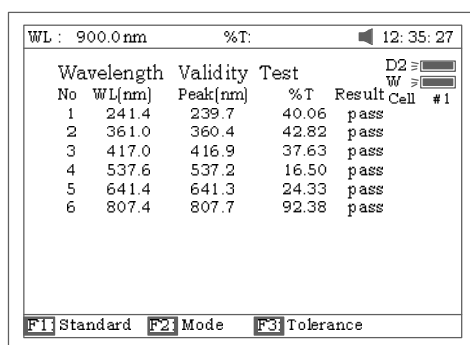

Fig 99
5. Put the sample (calibrated holmium liquid) into main light path. Press **[START]** to check. The results will be displayed on the screen (Fig 99). If the discrepancy between the results and the calibrated values is not more than the tolerance, "pass" will be displayed after the test results. Otherwise, "fail" will be displayed.